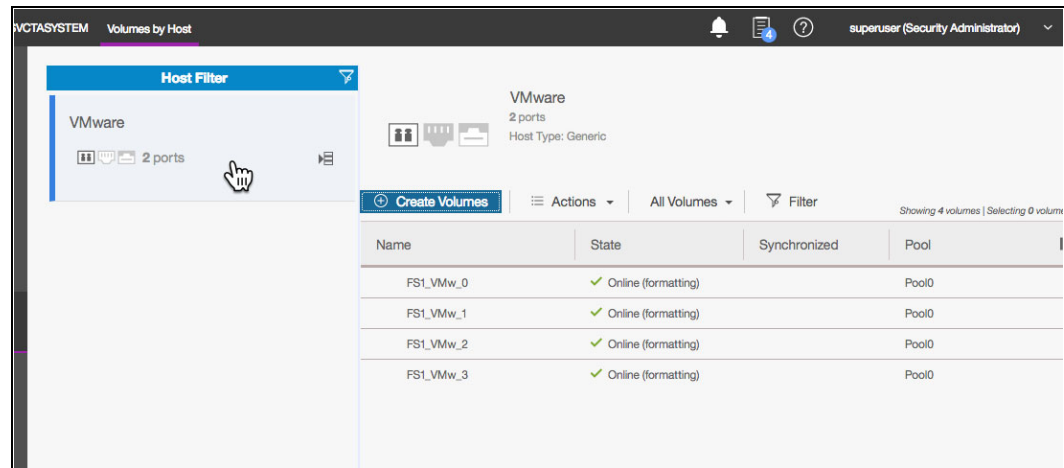

Figure 8-20 Volumes by Host pane after volumes are created
- The display returns to the Volumes by Host pane. Now, the volumes that were created are listed, as shown in Figure 8-20.